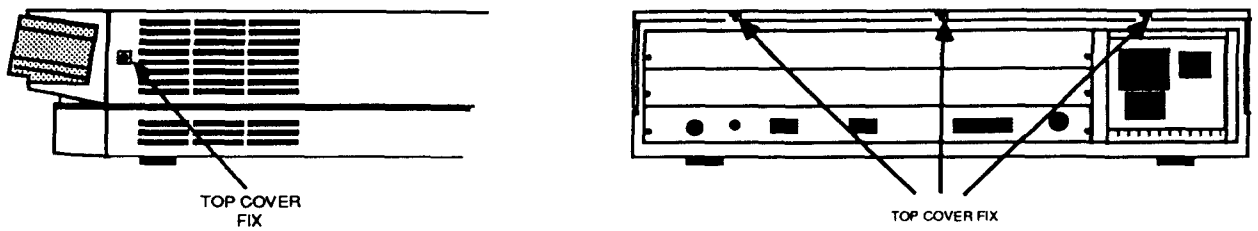

Fig.1: The screws holding the top case.
- 2 Locate the screws holding the top case in place (see Fig. 1 overleaf). Remove the three screws at the top rear of the unit, then remove the single screw located on each side of the unit, towards the front.